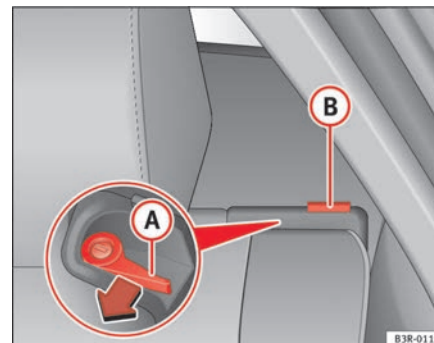

Fig. 118 Backrest release lever
- Press the release lever **A** ⇒ page 141, fig. 118 in the direction indicated (arrow).